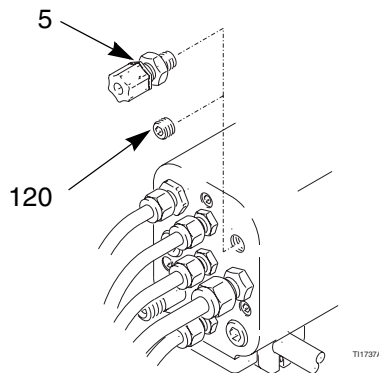

Fig. 6. Fiber Optic Fitting
1. Remove the plug (120) from the fiber optic port, and install the fiber optic fitting (5, shipped loose with the gun). See FIG. 6..